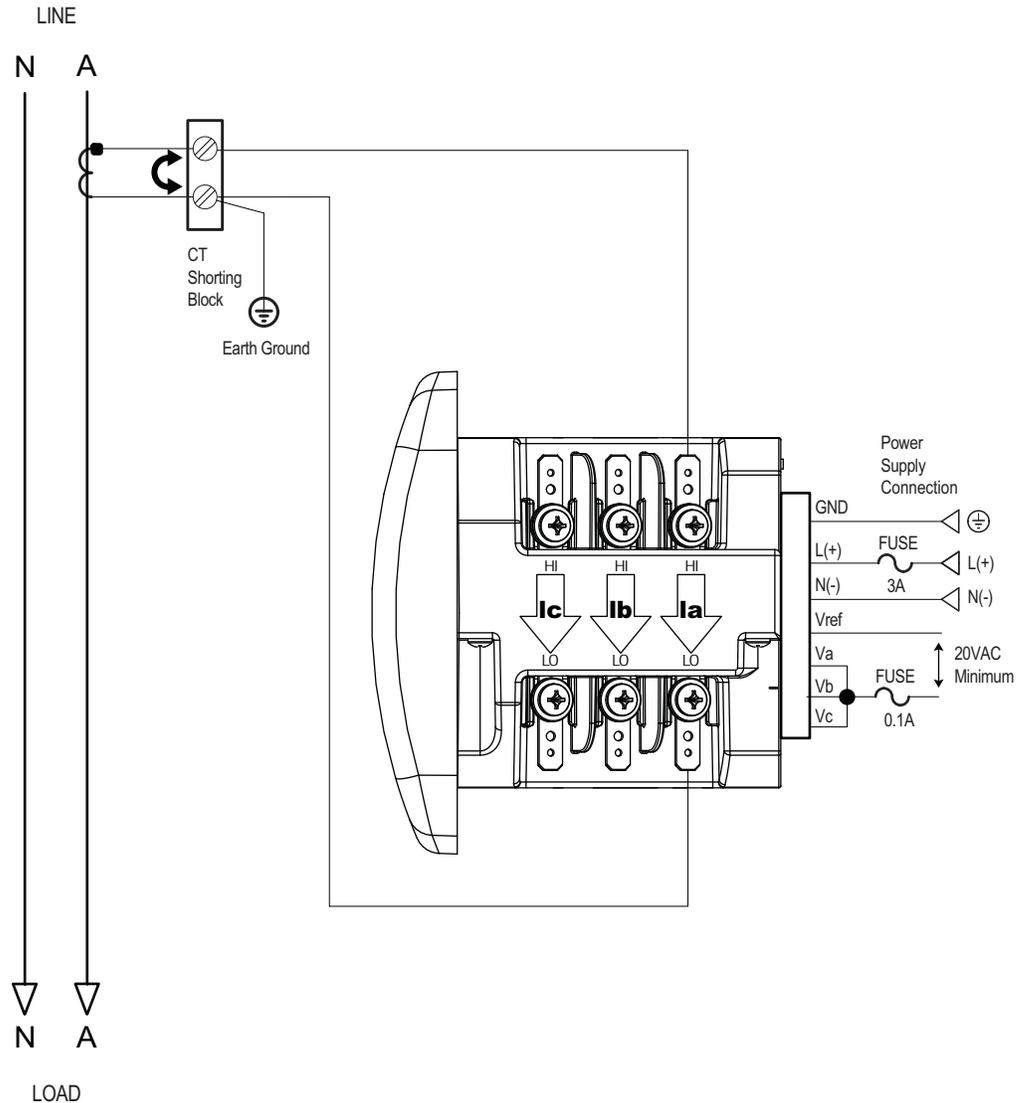

Figure 4-16: Current Only Measurement (Single Phase)
- Figure 4-16: *Current Only Measurement (Single Phase)* on page 4-19